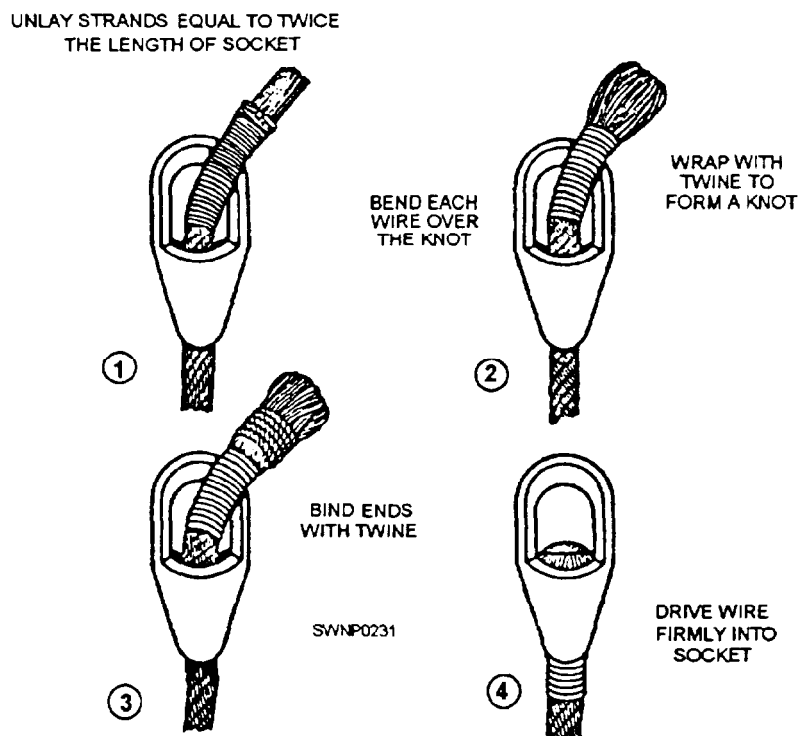

Figure 5-12.—Attaching a basket socket by the dry method.
**DRY METHOD.**— The basket socket can also be fabricated by the dry method (fig. 5-12) when facilities are not available to make a poured fitting; however, its strength will be reduced to approximately one sixth of that of a poured zinc connection.